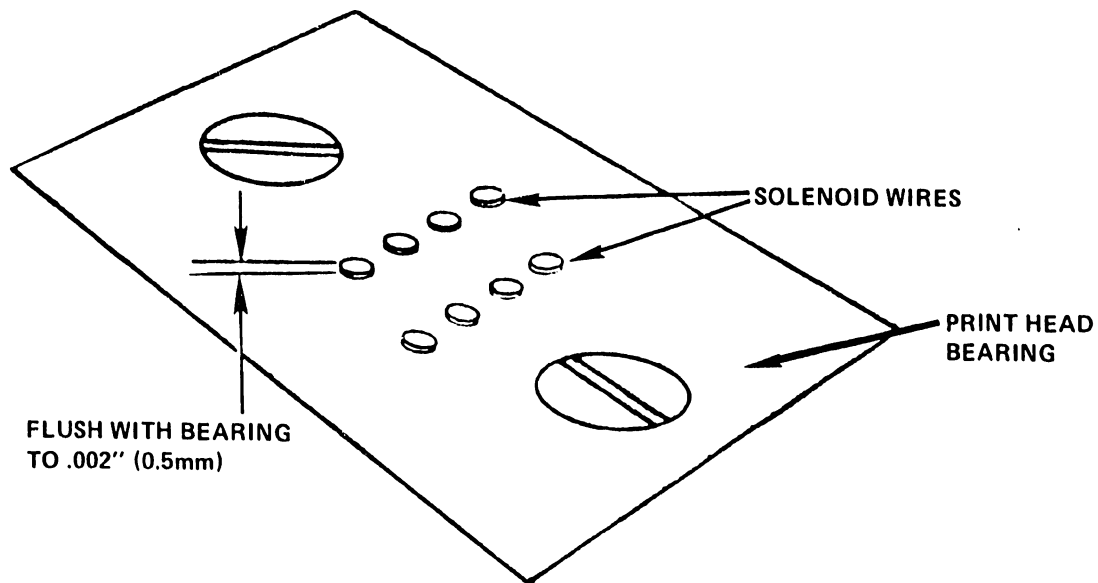

Figure 5-32. Solenoid Wire Adjustment
2. Using a magnifier, examine the print head bearing. All eight solenoid wires should be flush with the bearing or extend a maximum of .002" (.05 mm) from it. If any solenoid wires are incorrectly adjusted, continue with this procedure. See Figure 5-32.